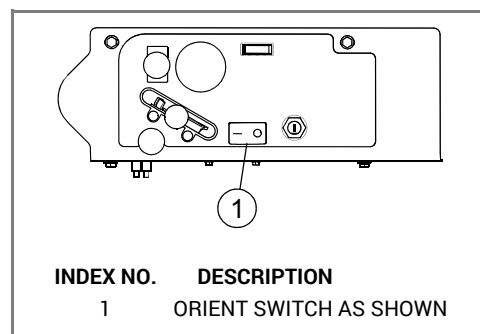

FIG. 5
11. Insert the switch into the slot, oriented as shown. It will snap into place. FIG. 5